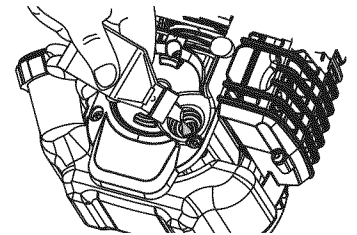

Fig. 17
6. If the oil level is not touching the inner most thread on the oil fill hole, add a small amount of oil to the oil fill hole and recheck (Fig. 17). Repeat this procedure until the oil level reaches the inner most thread on the oil fill hole.